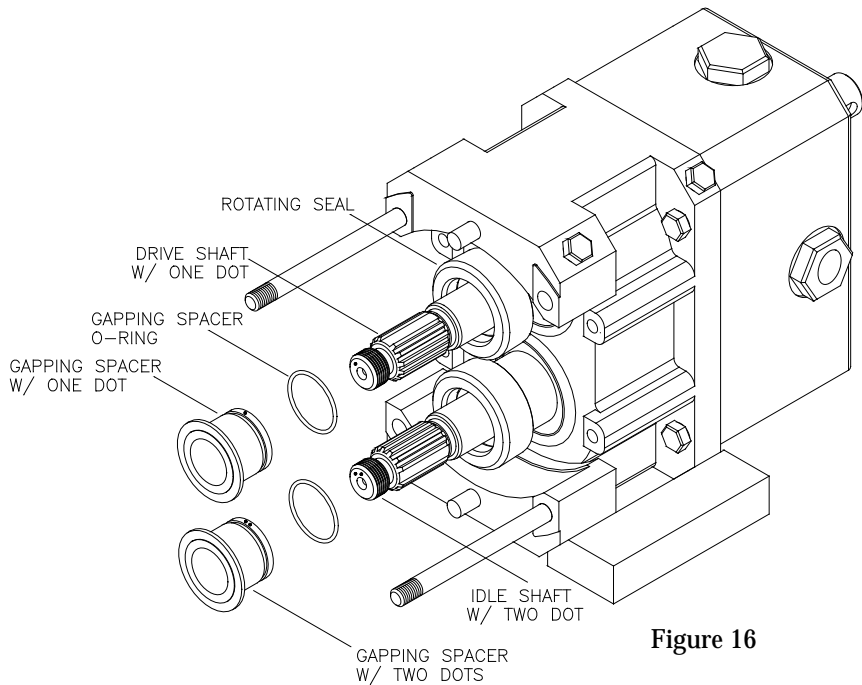

Figure 16
a) Install the pump housing (10) onto the gear-box (15) and secure the housing dome nuts (6).
b) Install the gapping spacer o-ring (16) into the o-ring groove on the gapping spacer (3).
- Install the gapping spacer with one dot onto the drive shaft (47). Install the gapping spacer with two dots onto the idle shaft (41) (Figure 16).